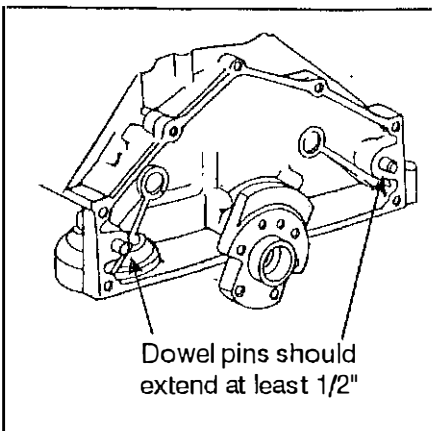

Figure 2
STEP 7. Inspect the engine block's transmission mounting face to make sure it is free of any dirt or burrs. Make sure both dowel pins are installed and stick out of the block at least 1/2" to insure proper transmission alignment, see (Fig. 2).